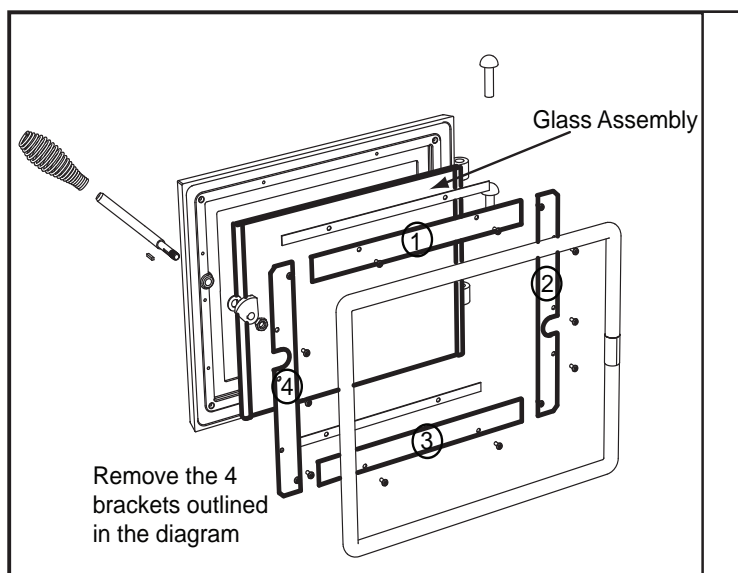

Figure 22.1
2. Using a Phillips Head screw driver, remove the 4 brackets and set aside. **Figure 22.1.**